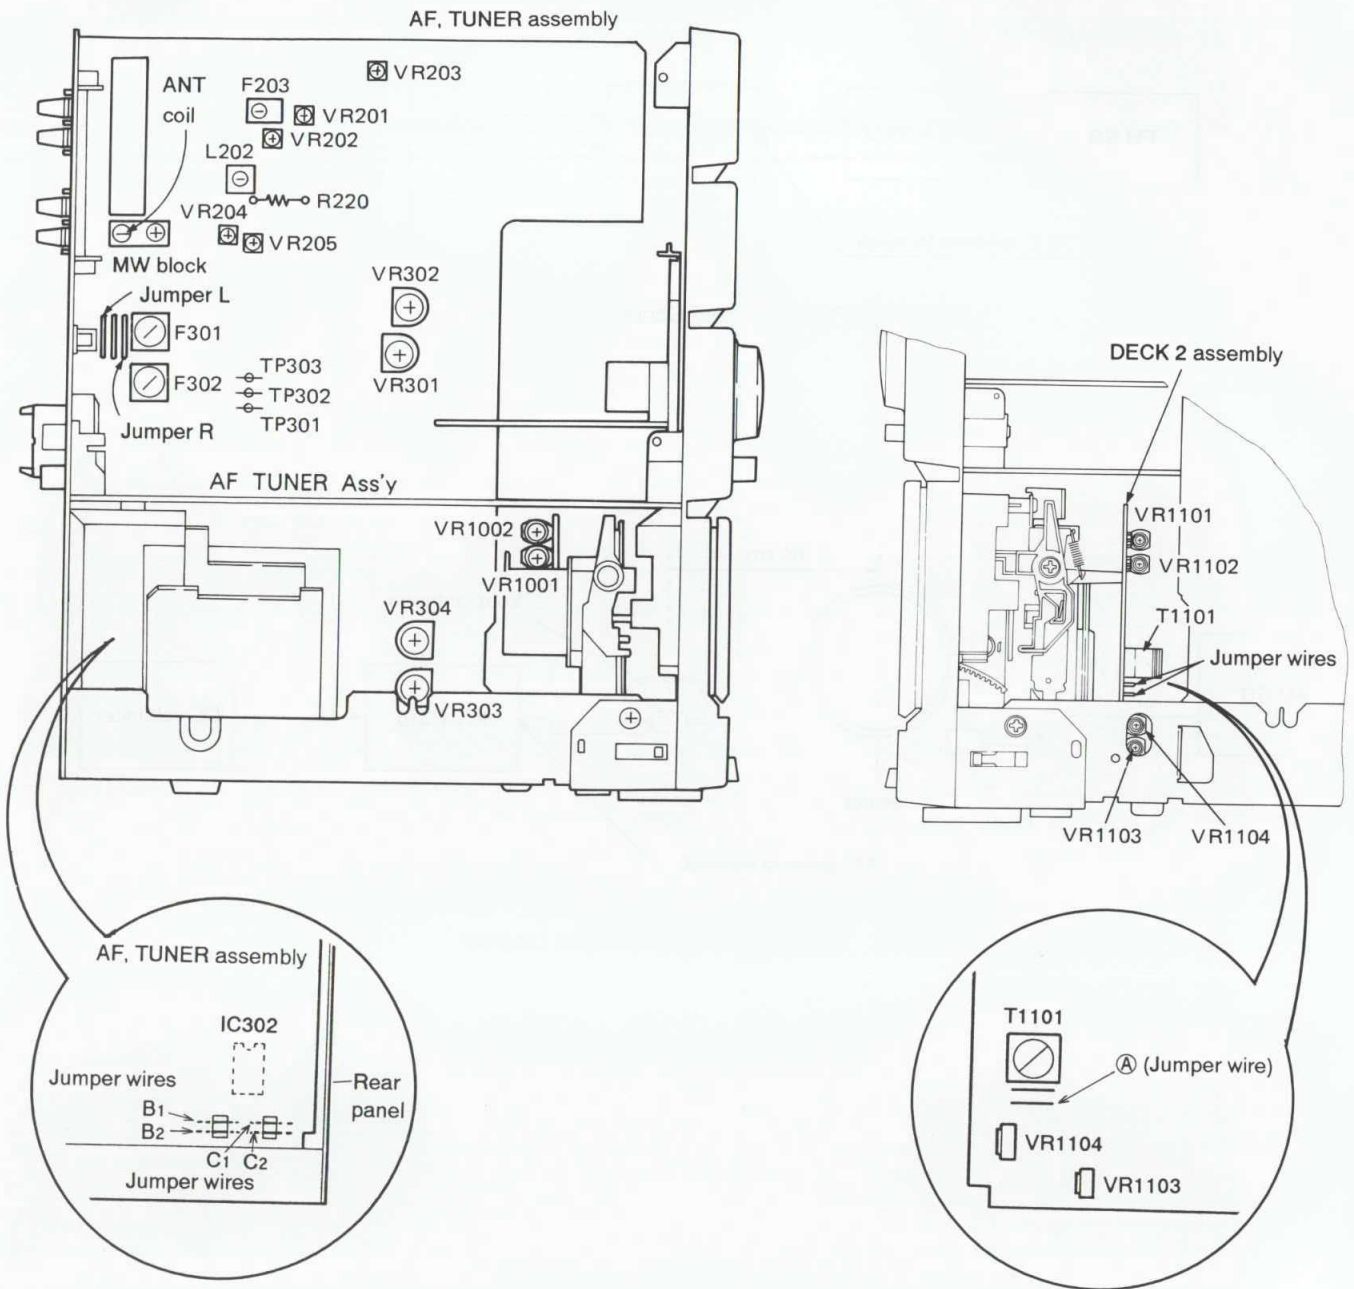

Fig. 8-3. Adjustment Points and Test Points
- Refer to Fig. 8-3. for adjustment test points and controls.
- Adjustment points and test points are shown in Fig. 8-3.
**Note:** To make frequency response of the phone equalizer flat, perform the following adjustment items 2 to 4 with connecting B1 to B2 and C1 to C2 in Fig. 8-3 respectively.